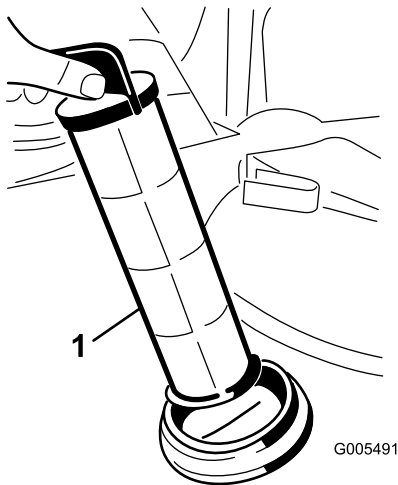

Figure 57
4. Pull the suction strainer out of the hole (Figure 57).